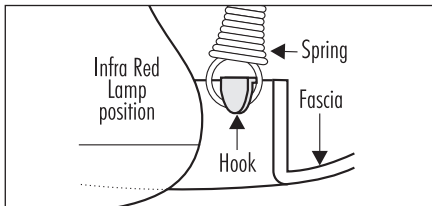

Fig. 15 – 11511, 11532
1. Model 11511, 11532, remove lamps and centre globe to fit fascia into position and hook coil-spring onto fascia as per Fig. 15. Model 12511 has a snap-on fascia, however the lamps and centre globe must be fitted in these models prior to the fascia. The legs of the lamp surround must rest freely on the ceiling. A clearance of approximately 3-5 mm should exist between the ceiling and outer rim of surround.